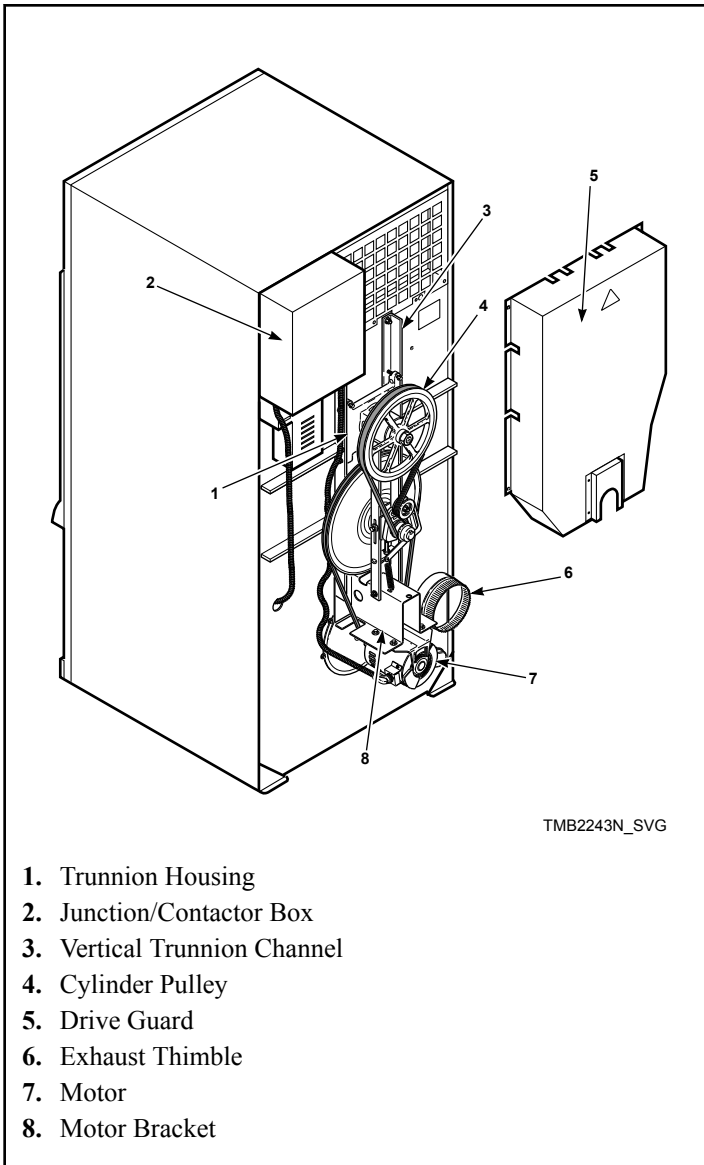

Figure 8
2. Remove the drive guard. Refer to *Figure 8*.
3. Remove the drive belts. Refer to *Figure 8*.
8. Remove the trunnion housing. Refer to *Figure 8*.
10. Remove the motor(s) and motor bracket(s). Refer to *Figure 8*.
12. Remove the junction/contact box. Refer to *Figure 8*.